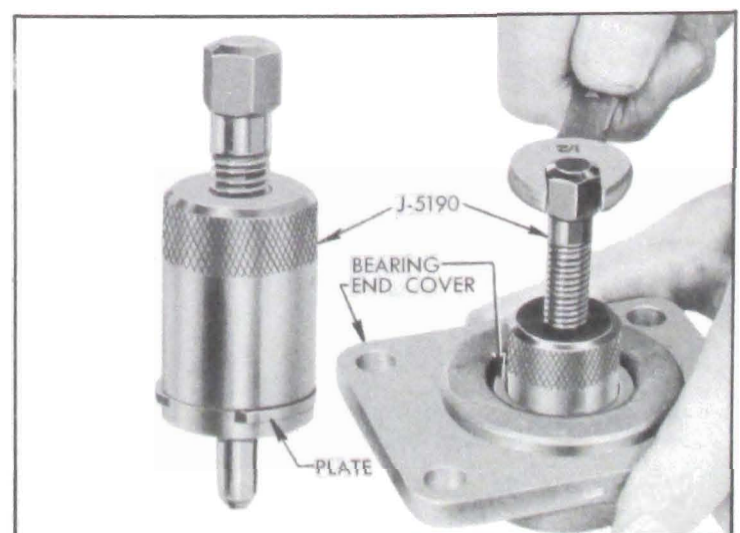

Figure 7-10—Removing Bearing from End Cover
9. If worm bearing in the housing end cover requires replacement, insert Remover J 5190 into bearing and turn the screw, which will expand two plates under the bearing and will then force the tool and bearing out. See figure 7-10.